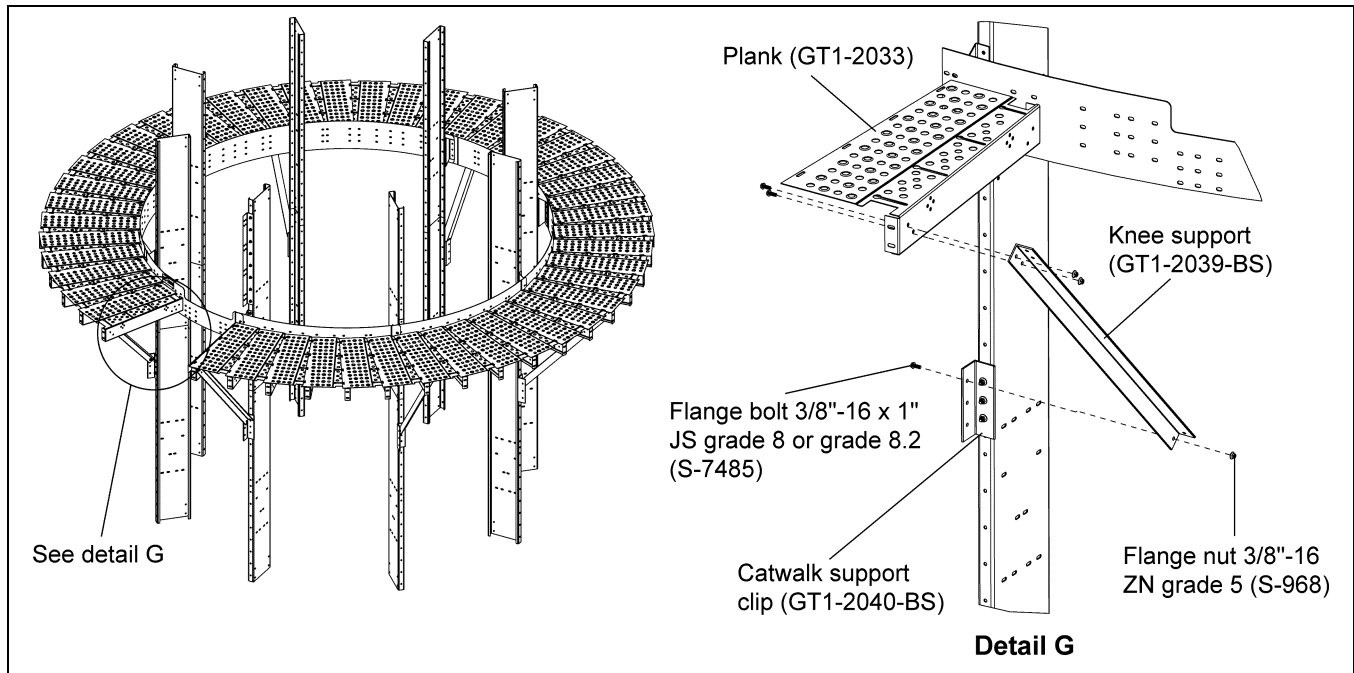
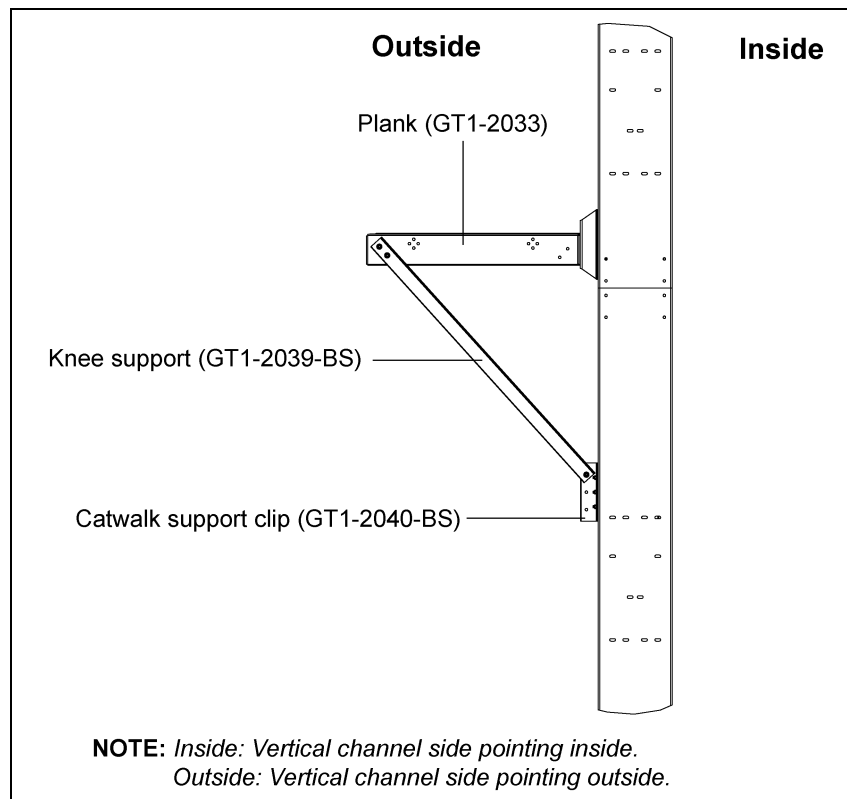

Figure 4P
Figure 4Q
1. Install the knee support (GT1-2039-BS) around the dryer between the catwalk support clips (GT1-2040-BS) and planks (GT1-2033) using 3/8"-16 x 1" JS grade 8 or grade 8.2 bolts (S-7485) and 3/8"-16 ZN grade 5 nuts (S-968). (See Figure 4P and Figure 4Q.)